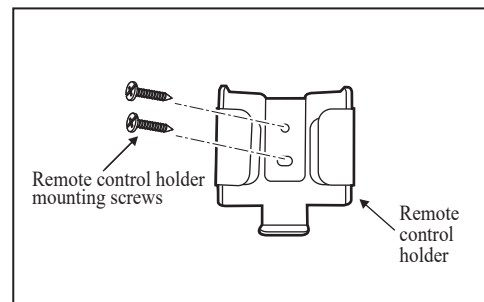

Figure 22
1. Attach the remote control holder with the two remote control holder mounting screws. (Fig. 22)